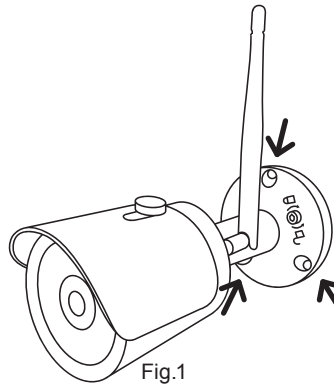

Fig.1
- Hang the camera using 3 expansion plugs and screws provided with the system - Fig. 1.